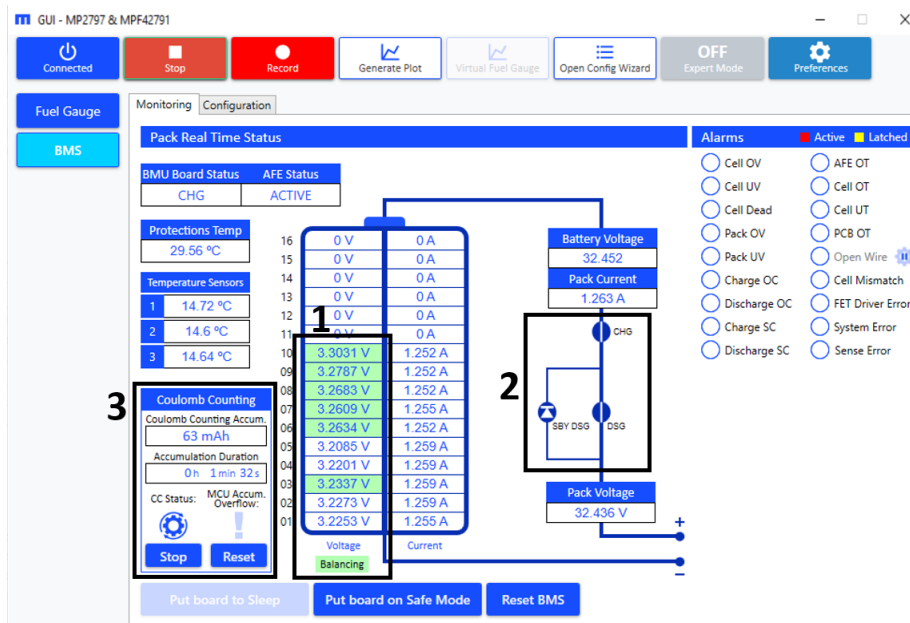
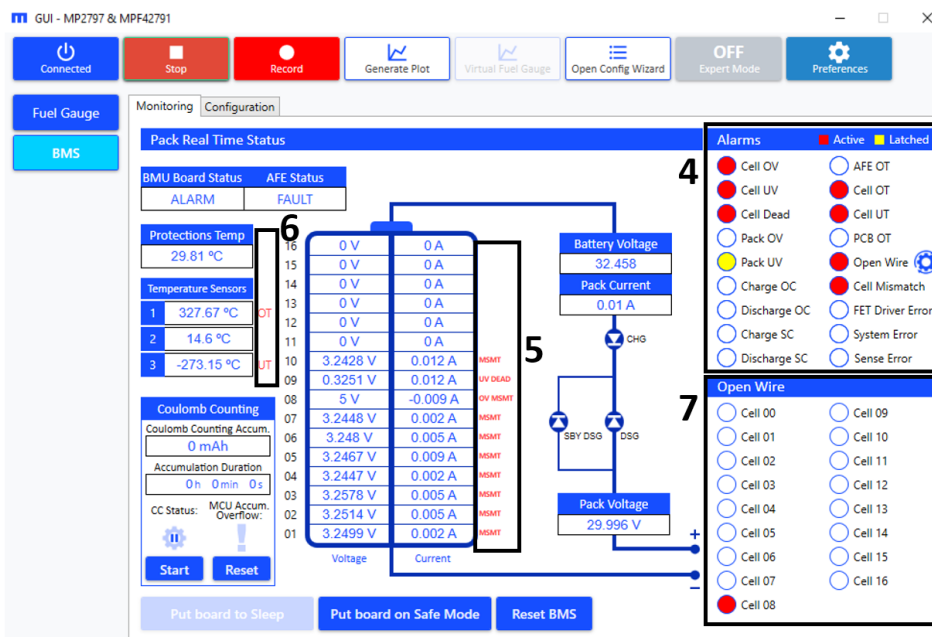

Figure 53: BMS Monitoring 1
Figure 54: BMS Monitoring 2
3. Figure 53 and Figure 54 on page 40 show the BMS Monitoring windows.
4. If a cell is balancing, the background of its displayed voltage is highlighted and a legend appears below the voltage title (see Figure 53).
5. The status of each protection FET is displayed. If the FET is displayed as a diode, this means that the FET is open; otherwise, the FET is closed (see Figure 53).
7. In the Alarms display, an alarm is displayed in red if the conditions to trigger the alarm are met. An alarm is displayed in yellow when the alarm's conditions are no longer met but the status is latched. If an alarm is neither active nor latched, an alarm is displayed in white (see Figure 54 on page 40).
If a fault is disabled but the fault conditions are met, the fault is displayed but the BMS does not enter an alarm mode (see Figure 53 and Figure 54 on page 40).
8. Each cell has a display that shows the real-time status for over-voltage (OV), under-voltage (UV), dead (DEAD), and mismatch (MSMT) conditions.
9. Each temperature sensor has a display showing the real-time status for over-temperature (OT) and under-temperature (UT) conditions.
11. To stop monitoring, click "Start". It should update to "Stop" (see Figure 53 on page 40).